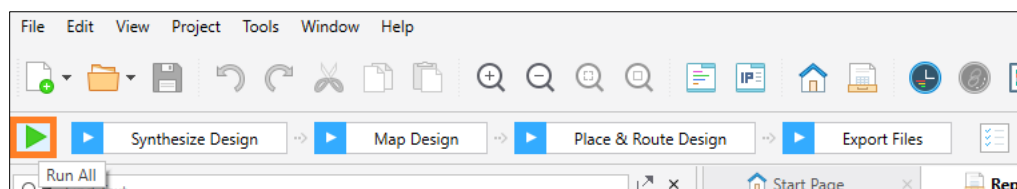

Figure 5.20. Generating Bitstream
- Click the **Run All** icon to generate the bitstream (Figure 5.20).